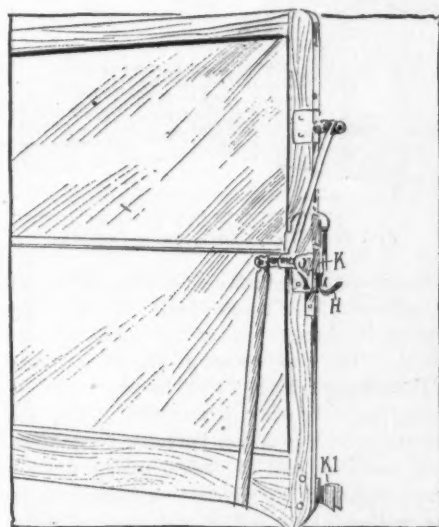

FIG. 27—WILLIAMS WINDSHIELD
**Pierson Motor Supply Co.**—Three specialties will be exhibited by this concern, one of which will be the Williams folding wind shield, Fig. 27, which is of the rectangular class, having the upper half hinged to the lower, and when in the up position is held by a hook H attached to the top half and anchoring under a hooked piece K on the lower half, a spring holding the hook in a catch in the piece K. When lowered the hook K anchors in a special catch K1 at the base of the lower half. The second accessory is the Wayne portable gasoline tank and pump for garage use. It has a 50-gallon capacity and is mounted on large side wheels and a small pivoted front or guiding wheel. The pump discharges  $\frac{1}{8}$  gallon,  $\frac{1}{2}$  gallon or quart at each stroke.